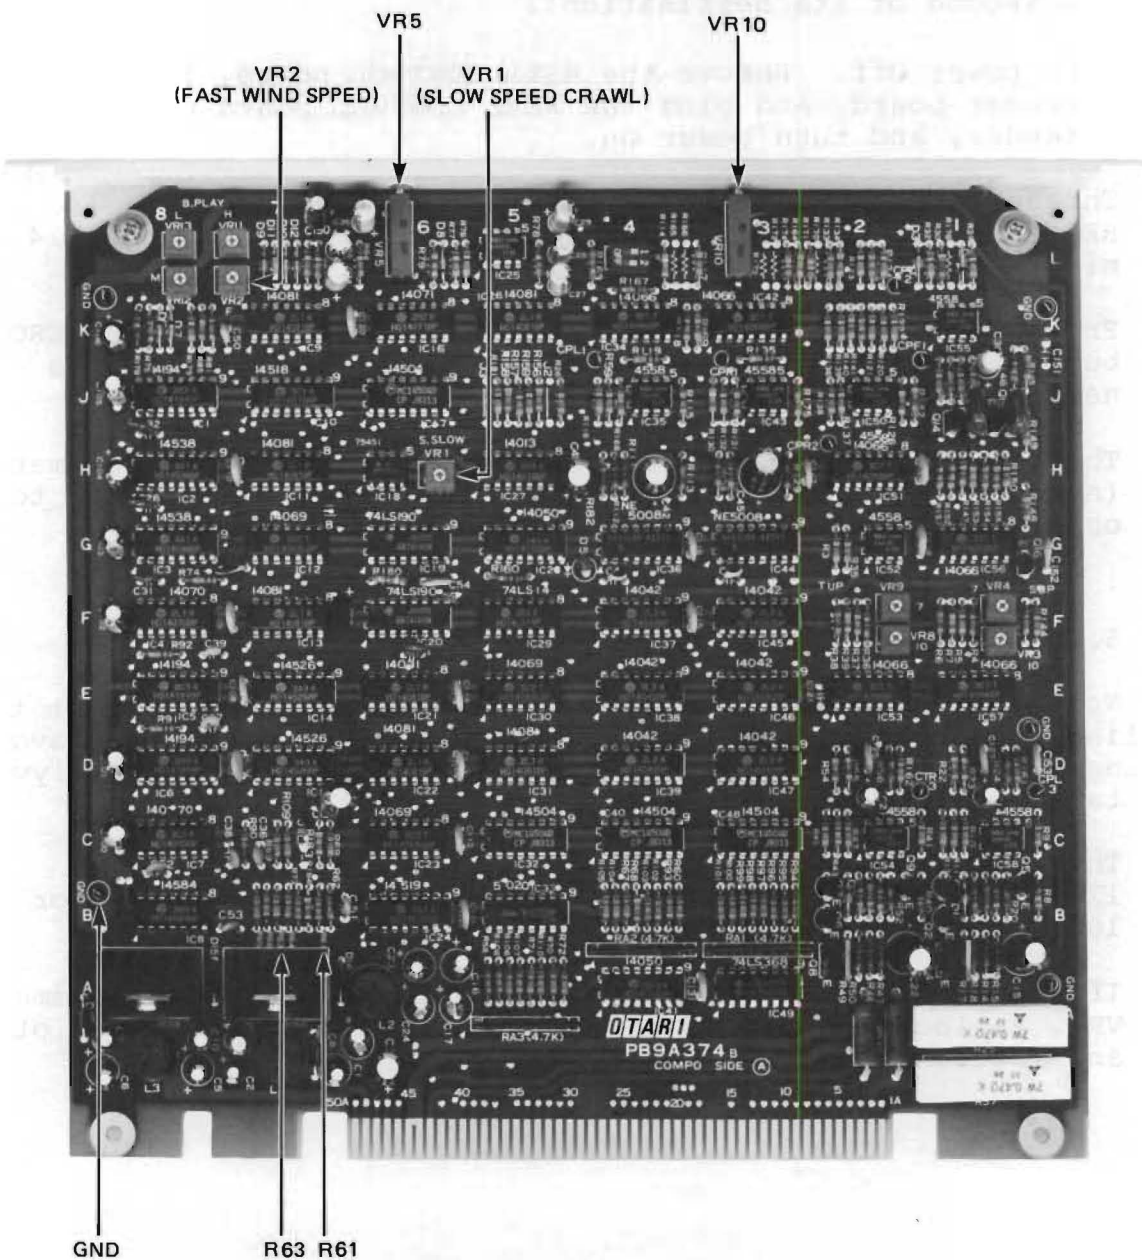
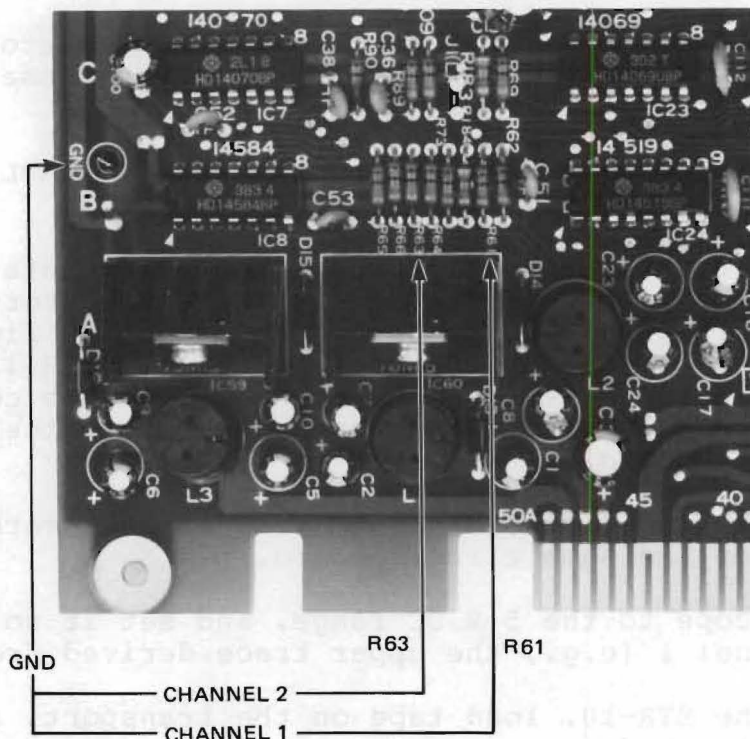

FIGURE 5-8. REEL CONTROL BOARD INTERNAL ADJUSTMENTS AND TEST POINTS
FIGURE 5-10. TEST POINTS ON REEL CONTROL PCB FOR TACH PHASE CHECK
4. The crawl speed should be about 3-3/4 ips. Adjust trimmer VR1 (near the middle of the REEL CONTROL board) as required to obtain this crawl speed. (Refer to figure 5-8.)
2. Connect a dual trace oscilloscope to test points (two resistors) on the REEL CONTROL board. These resistors are roughly located in figure 5-8, and shown in detail in figure 5-10). Connect the upper scope trace (channel 1) to R61, and the lower scope trace (channel 2) to R63, with the connections made to the side of the resistors closest to the edge of the circuit board.